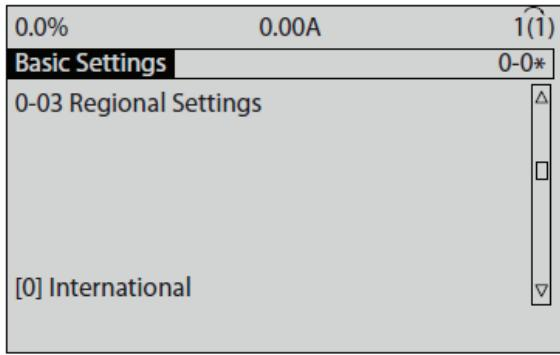

Fig. 26 — Basic Settings
4. Press navigation keys to scroll to 0-03 Regional Settings and press [OK]. See Fig. 26 for Basic Settings illustration.